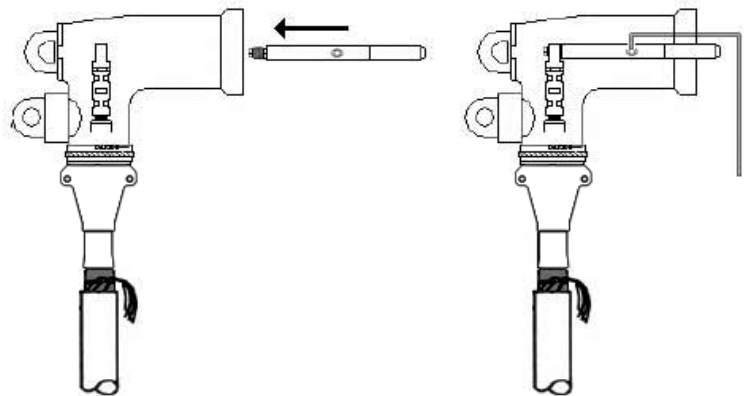

Fig. 9 - Assemble & torque probe with wrench
C. Hand thread the probe into the lug to avoid cross threading. Once the probe has been properly started, use the supplied wrench to fully tighten probe into the lug. The probe will be fully mated when the wrench permanently deforms at approximately 110 to 120 inch/lbs of force. See Figure 9.